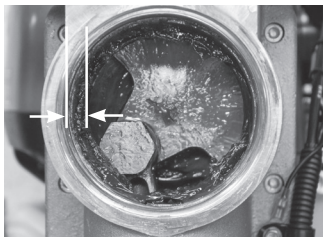

Fig. 10 - If ridge of Rhino® Pro Series Lubricant measures 1/8" or less, add a small amount. At maximum level it should measure 1/4".
Visually inspect the color and amount of Rhino® Pro Series Lubricant inside the crankcase. There should be a ring of Lubricant collected to the wall inside the crankcase. Should the depth of the ring from the wall inward measure 1/8" (3mm) or less (Fig. 10) this indicates the Rhino® Pro Series Lubricant is low. The maximum level should not be more than 1/4" (6mm). If the amount of Lubricant appears to be low, add a small amount of Rhino® Pro Series Lubricant. Use only Rhino approved Rhino® Pro Series Lubricant (p/n 300500.)
**(Fig. 10)** Rotate crankshaft with connecting rod, piston and crankpin until the